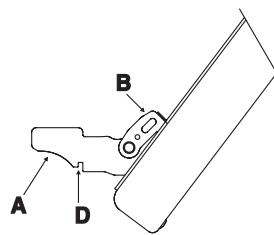

FIG. 2
- Open the door completely and lift the 2 levers "B" (fig. 2);